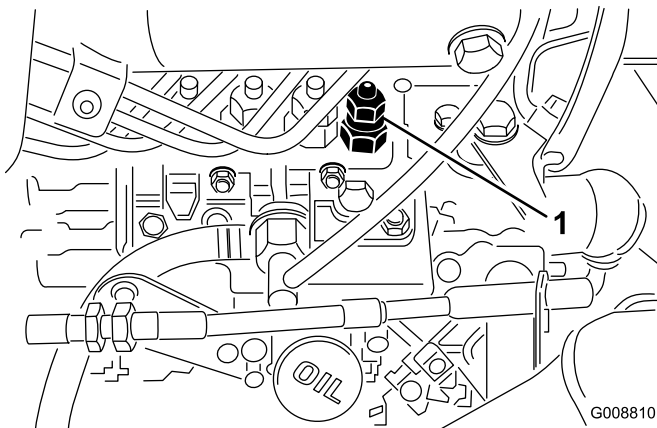

Figure 56
1. Loosen the tube connection to the Number 1 injector nozzle and holder assembly at the injection pump (Figure 56).